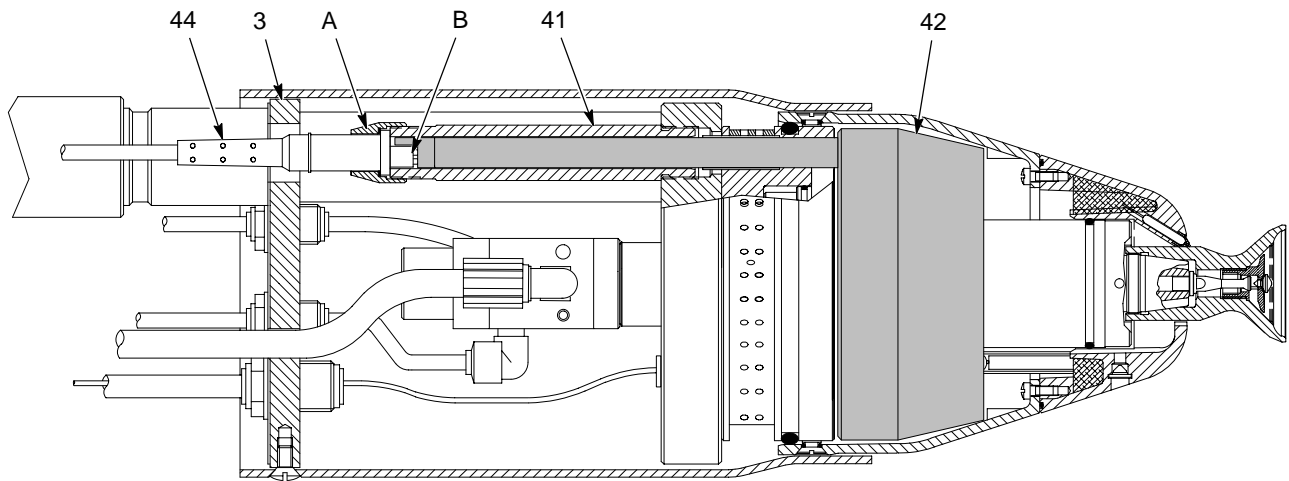

Figure 6-2 Turbine Removal - IPS Cable Version
2. See Figure 6-2. If your atomizer is equipped with an IPS multiplier, unscrew the cable nut (A) from the IPS adapter (41) and disconnect the IPS cable (44) from the IPS multiplier (42).